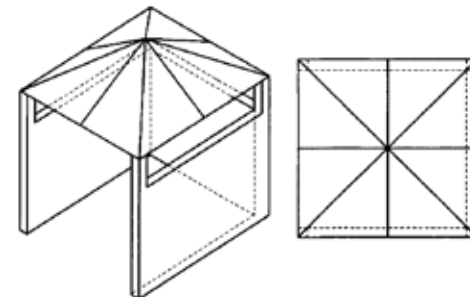

Figure 4. Open side at least 25% of total wall area. 30 % or more in total of the remaining wall area is open and unrestricted.
- At least 30% of the remaining wall area is open and unrestricted. See Figure 4 & 5.